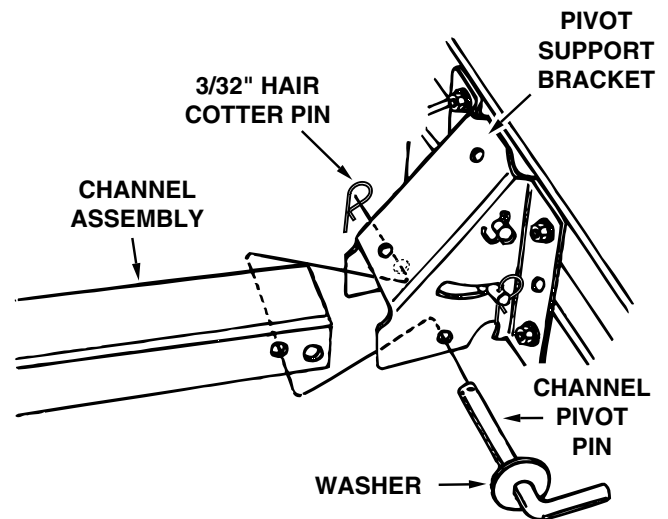

Figure 10
20. Attach the channel assembly to the tractor by placing the end of the channel inside the pivot support bracket. Assemble the 1/2" flat washer onto the channel pivot pin and insert the pin through the holes in the pivot support bracket and the channel. Secure with a 3/32" hair cotter pin. See figure 10.